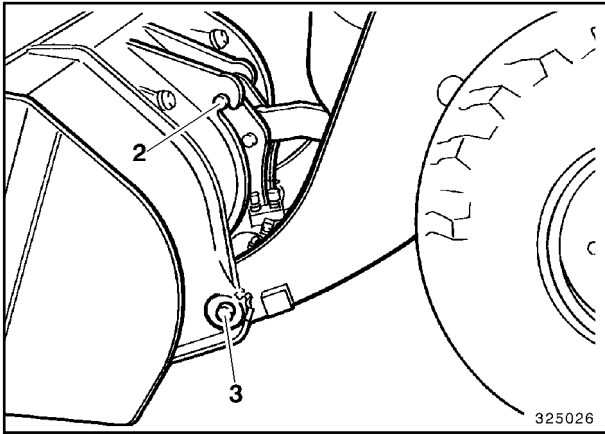

Fig. 4
When pin (2) is engaged, pull control lever (26, Fig. 5) briefly forwards (to unlock) and then push backwards to cause the lower pins (3, Fig. 4) to engage in the lifting frame as shown in Fig. 4.